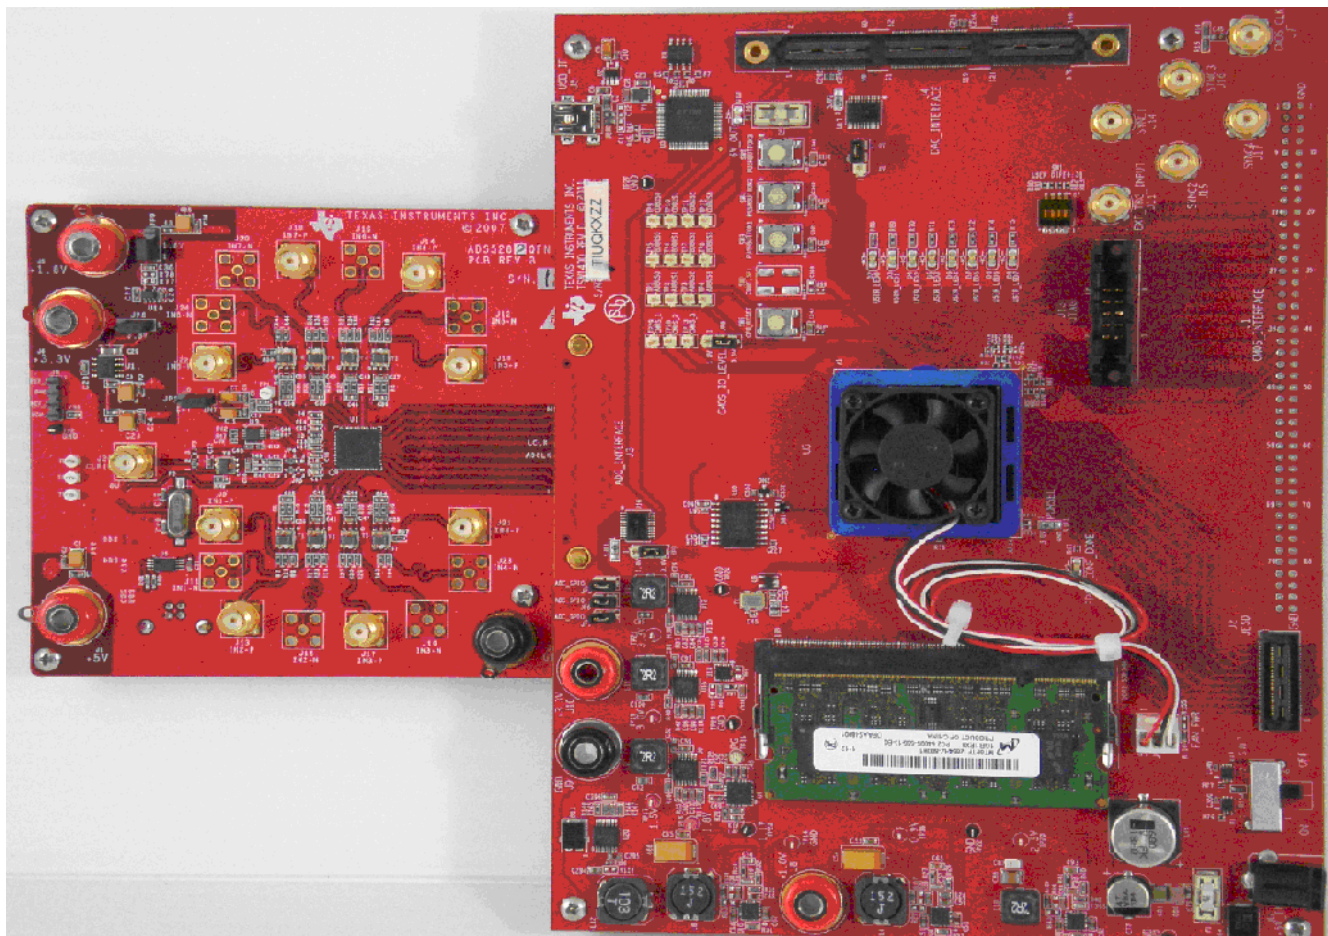

Figure 7. TSW1400EVM Interfacing to an ADS5281 EVM
- The TSW1400 EVM connected to an ADS5281 EVM is shown in Figure 7